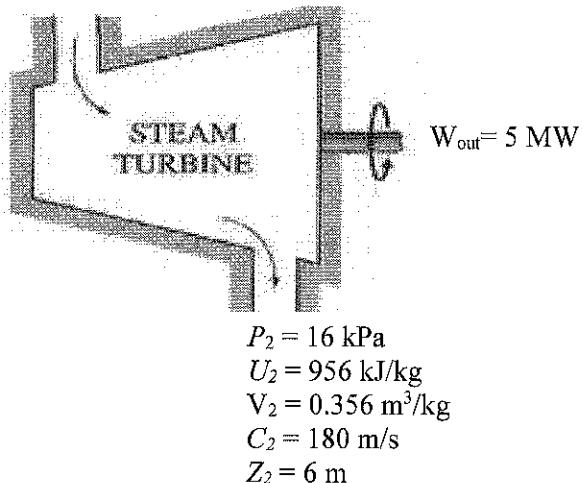

Figure Q3(d)
- (d) The power output of an adiabatic steam turbine is 5 MW, with the inlet and the outlet values of the steam are as indicated in Figure Q3(d). If the given the value of $g = 9.81 \text{ m/s}^2$, calculate: